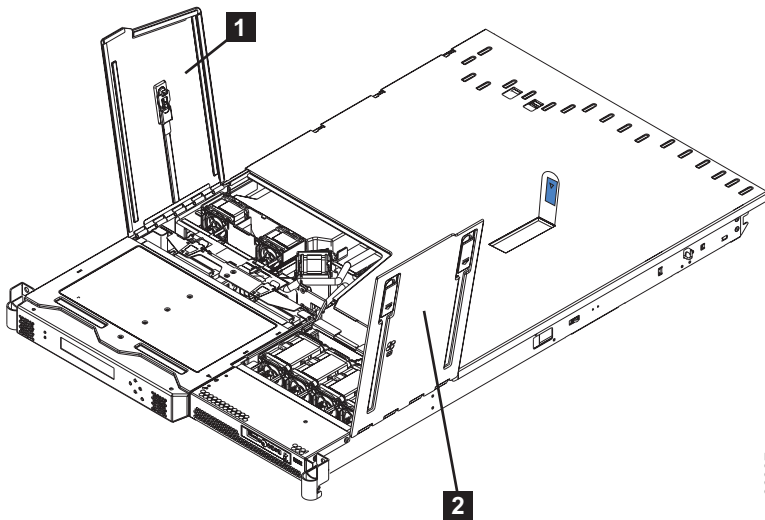

Figure 89. SAN Volume Controller 2145-8F2 or SAN Volume Controller 2145-8F4 with fan doors open
4. Close the fan door ( **1** in Figure 89) and replace the node in the rack.